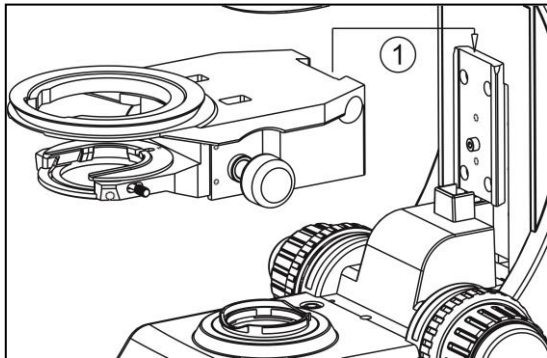
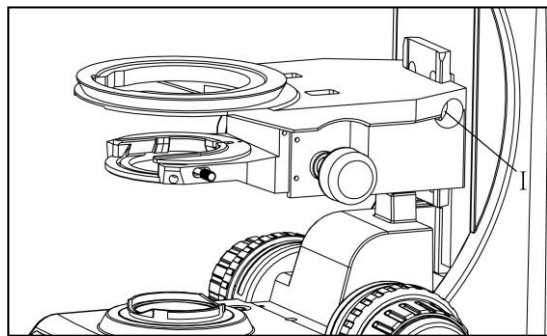

Fig 1
Fig 2
### 4-2-1 Install the Mechanical Slide Bracket (fig 1, fig 2)
- ★ Install the platform bracket according to the path of ① in figure 1. The dovetail slot needs to align with the slot of platform bracket, sliding it until the screw fix it. Then use the hex wrench tighten the screw shown as I in figure 2.
- ★ Install the mechanical object stage according to the path of number ② in figure 2. First align the object stage's hole center and the bracket circle center, then object stage downward slides the bracket locating ring